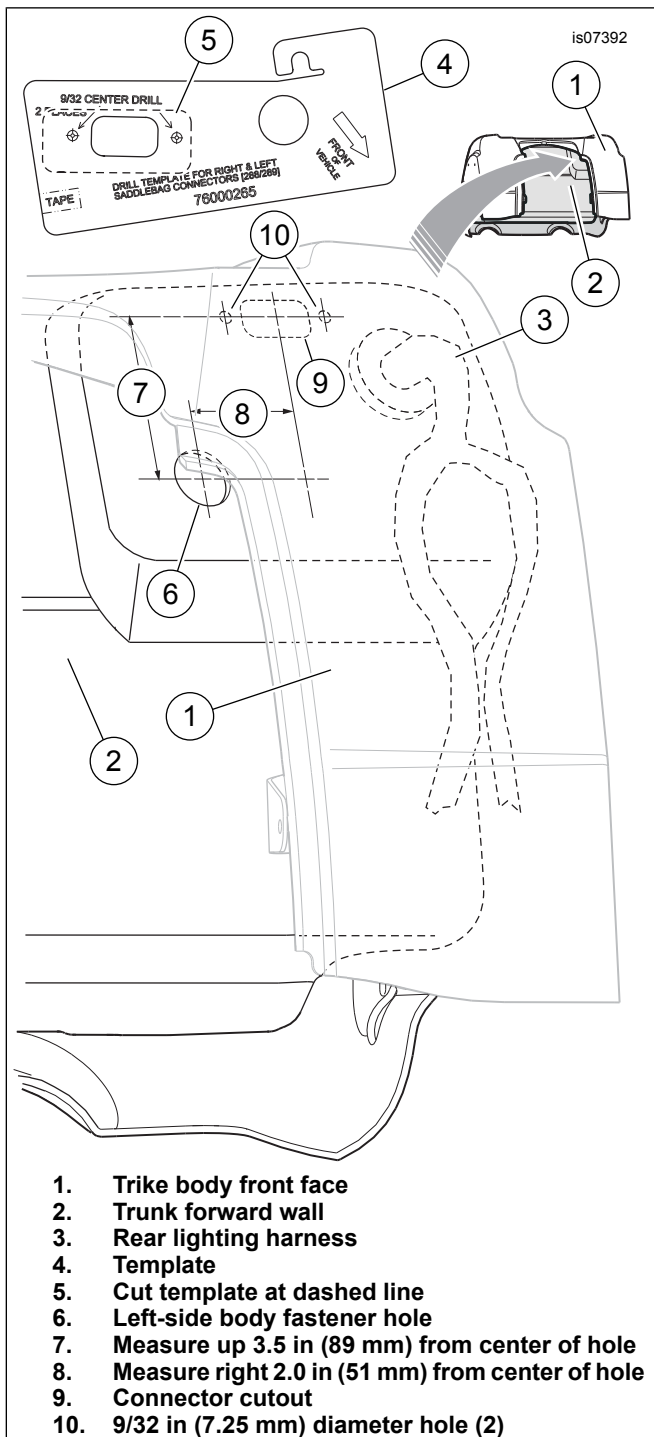

Figure 4. Trike Body Drilling for 12-Way Panel Mount Connector
2. See Figure 4. Locate the left-side body fastener hole (6) on the trunk forward wall (2) behind the Trike body front face (1).
3. Measure up from the center of the left-side body fastener hole, 89 mm (3.5 in) (7) and toward the outboard side, 51 mm (2.0 in) (8). Mark the trunk forward wall in that location.
4. Cut the template (4) surrounding the "SADDLEBAG CONNECTOR" mounting holes approximately as indicated by the dashed line (5).
Template position can be adjusted slightly if the panel connector flange will not seat on a flat surface or will be too close to the rear lighting harness (Figure 4, Item 3) grommet.